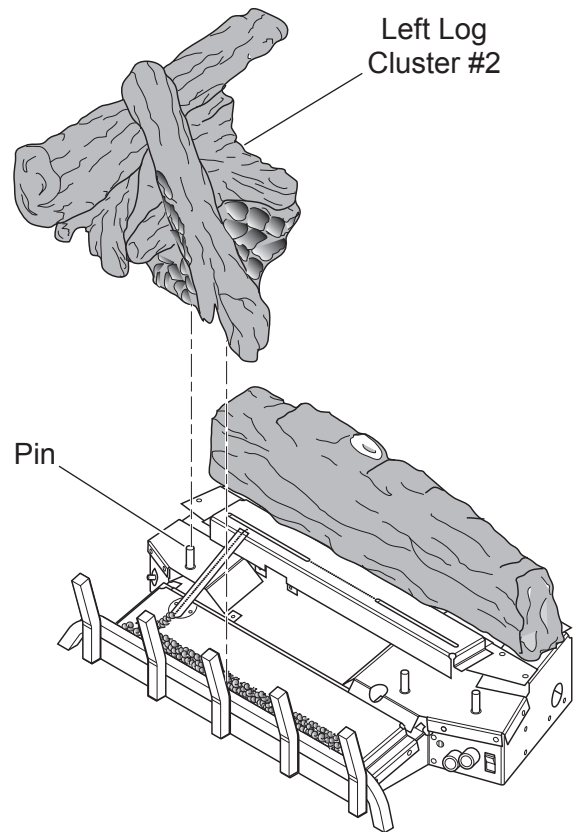

Figure 27 - Installing Left Log Cluster (#2)
2. Install left log cluster (#2) on pin located near left edge of base. *See Figure 27.*